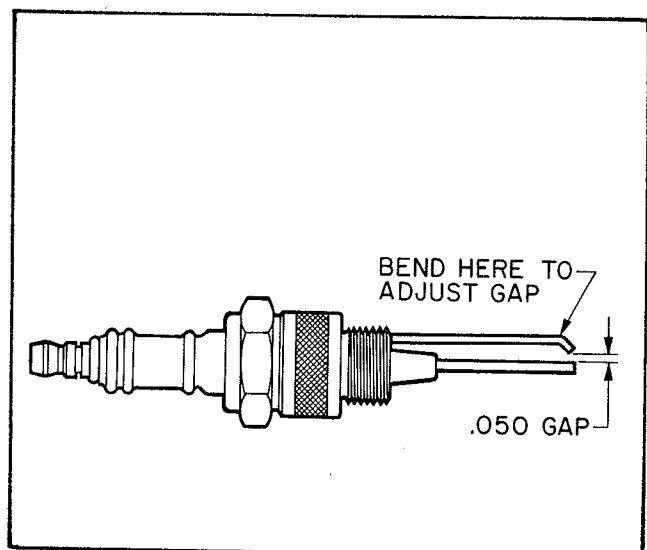

Figure 6. Spark Plug Gap Setting
2. Remove the spark plug from the burner head, and check the gap between the electrodes. The gap must be within the limits shown in Figure 6.
3. Adjust the gap by bending the outside electrode where shown in figure 6. If you do not install the plug immediately, protect it from damage until it is reinstalled.